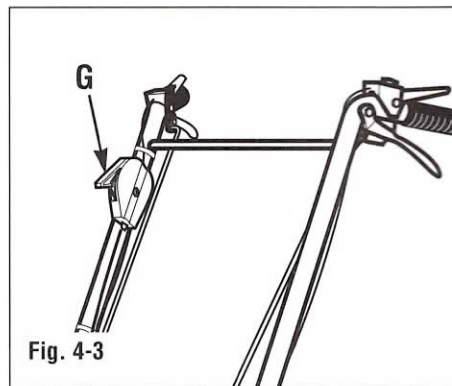

Fig. 4-3
4. Move the throttle control lever (G, Fig. 4-3) all the way forward.